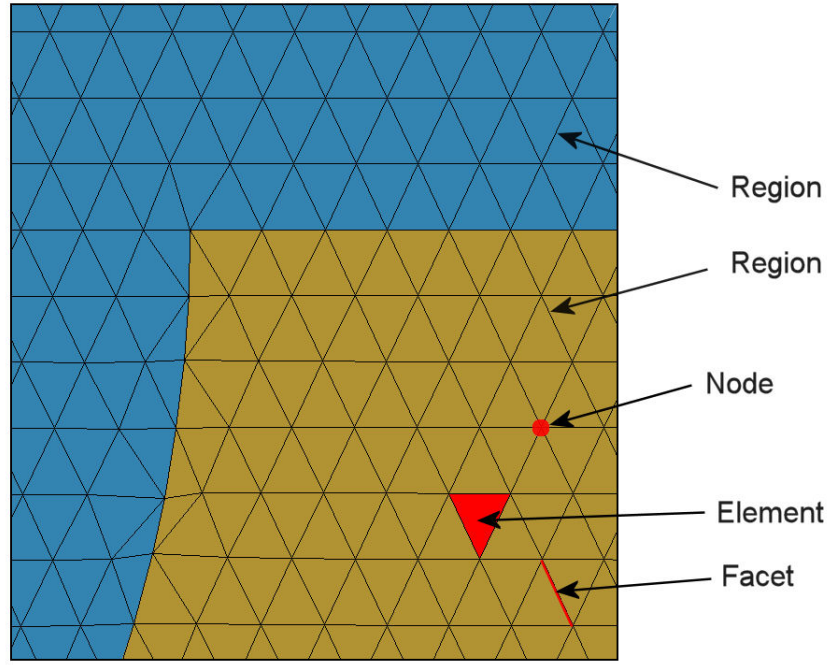

Figure 1: Conformal triangular mesh – definition of terms.
called the *computational mesh*. Figure 1 shows the type of mesh used for the two dimensional solutions of **TDiff**. The figure defines three terms that will be used throughout this manual:
The elements in Fig. 1 have triangular cross-sections. In a planar solution, the cross-section lies in the x - y plane and the elements extend an infinite distance in the z direction. In a cylindrical solution, an element is a figure of revolution about the axis with a triangular cross-section in the z - r plane.
The mesh in Fig. 1 has the important property of *conformality*. The term means that the triangles have been specially shaped to conform to the boundaries between materials (*regions*). As a result, each element has an unambiguous material identity. The finite-element method is based on two approximations: 1) material properties in an element are uniform and 2) elements are small enough so that the field quantities can be approximated by simple interpolation functions. With these assumptions, the governing differential equation can be integrated over elements surrounding a node to yield a linear equation. This equation relates the field quantity at the node to those at the surrounding nodes. The coupled set has one linear equation for each node in the mesh. In **TDiff**, solution of the set representing the thermal diffusion equation gives the temperature at each node. We can then perform two-dimensional interpolations to find temperature at intervening points, or take numerical spatial derivatives to find the components of the thermal flux.
- **Mesh** analyzes the boundary specifications and automatically generates a set of conformal triangles such as those of Fig. 1. The program creates an output file that lists the locations of nodes and the identities of elements.